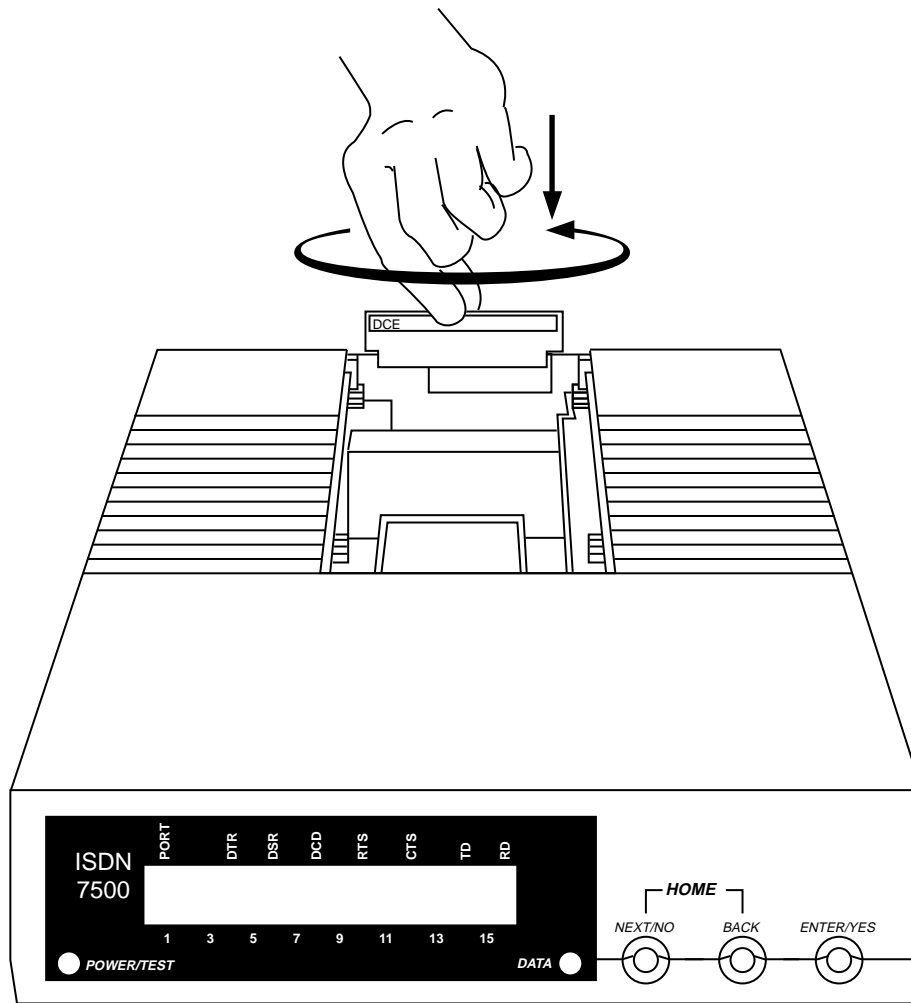

FIGURE 8-12. Turning the Board Around and Repositioning It (if necessary)
- Turn the board around until **DTE** is facing the arrow. See Figure 8-12.